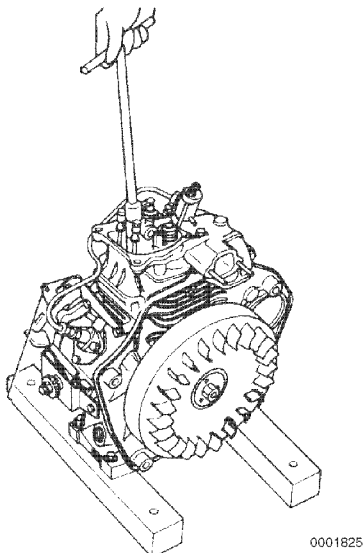

Figure 6-2
3. Remove the rocker arm shaft assembly **Figure 6-2**, by first removing the two bolts that secure the rocker arm shaft assembly to the cylinder head.